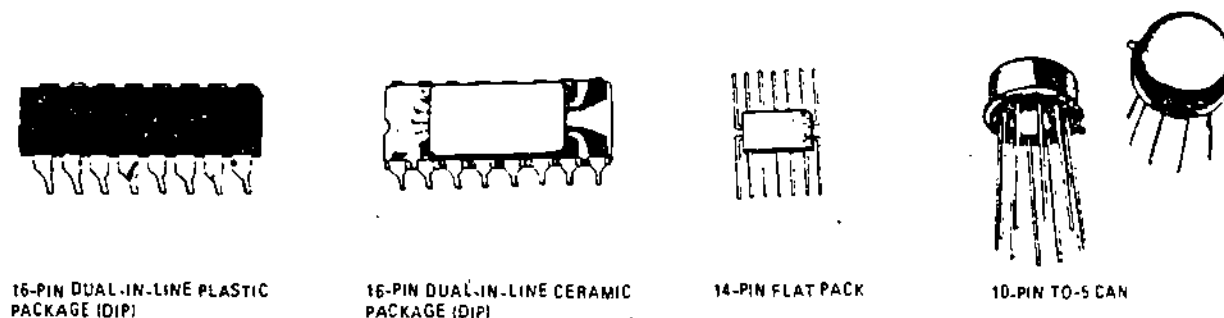

Figure 9
12. IC packages are manufactured in various shapes and sizes as shown in Figure 9.